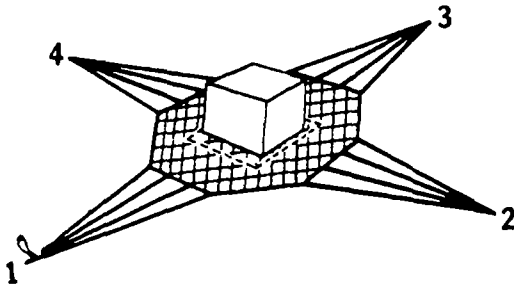

Figure 7-6. Aligned Load
Step 3 - Align the load on the net so that the sides of the load are parallel with the yellow cord (Figure 7-6). The load may overlap the yellow cord if the load is bigger than the yellow cord marked area. If the load is placed correctly, the load's center of gravity will be near the center of the net. The lifting legs will be on the side of the load, not on the corners. If the load is loose cargo, place the cargo on the net with the heaviest items in the center and the lighter items toward the sides or on top of heavier items.